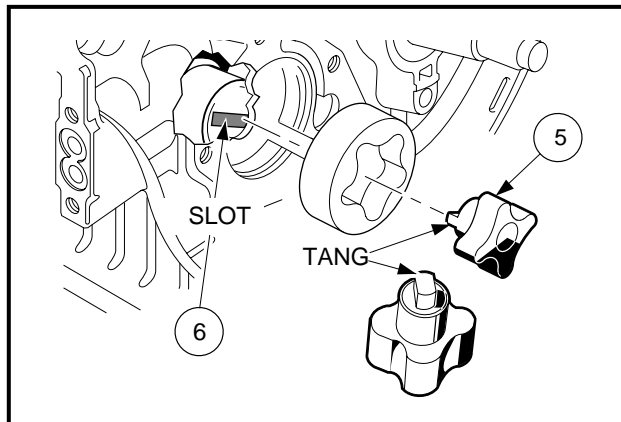

Figure 13-70 Install Inner Rotor
2. Install the inner rotor with its tang in the slot in the end of the camshaft (**Figure 13-70, Page 13-34**).